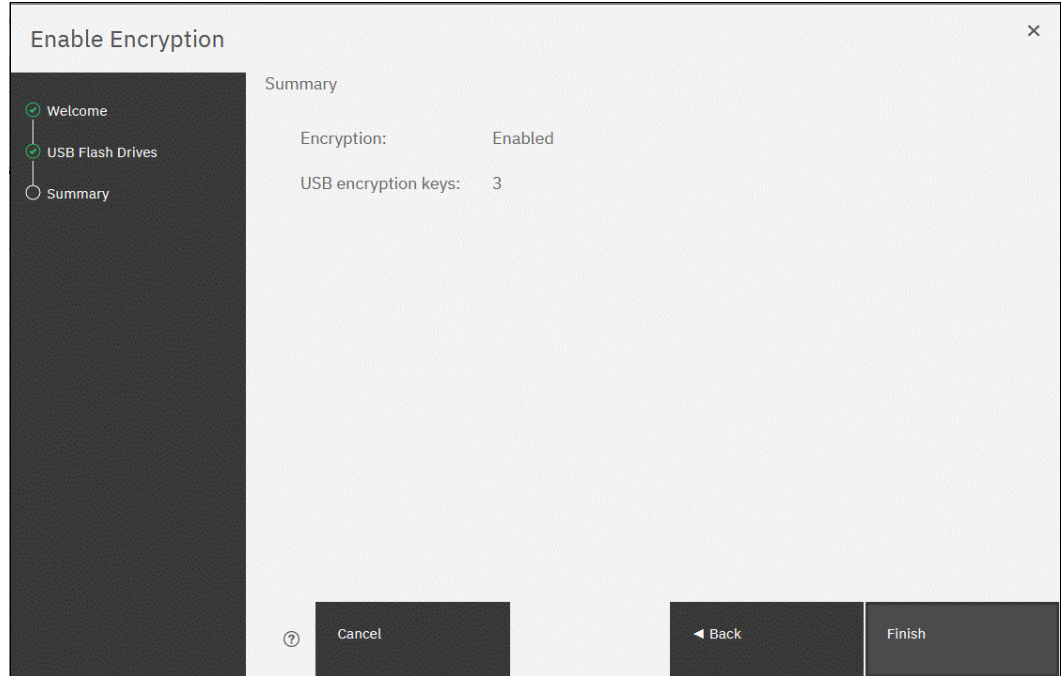

Figure 12-26 Committing the encryption enablement
4. The number of keys that were created is shown in the **Summary** tab, as shown in Figure 12-26. Click **Finish** to finalize the encryption enablement.